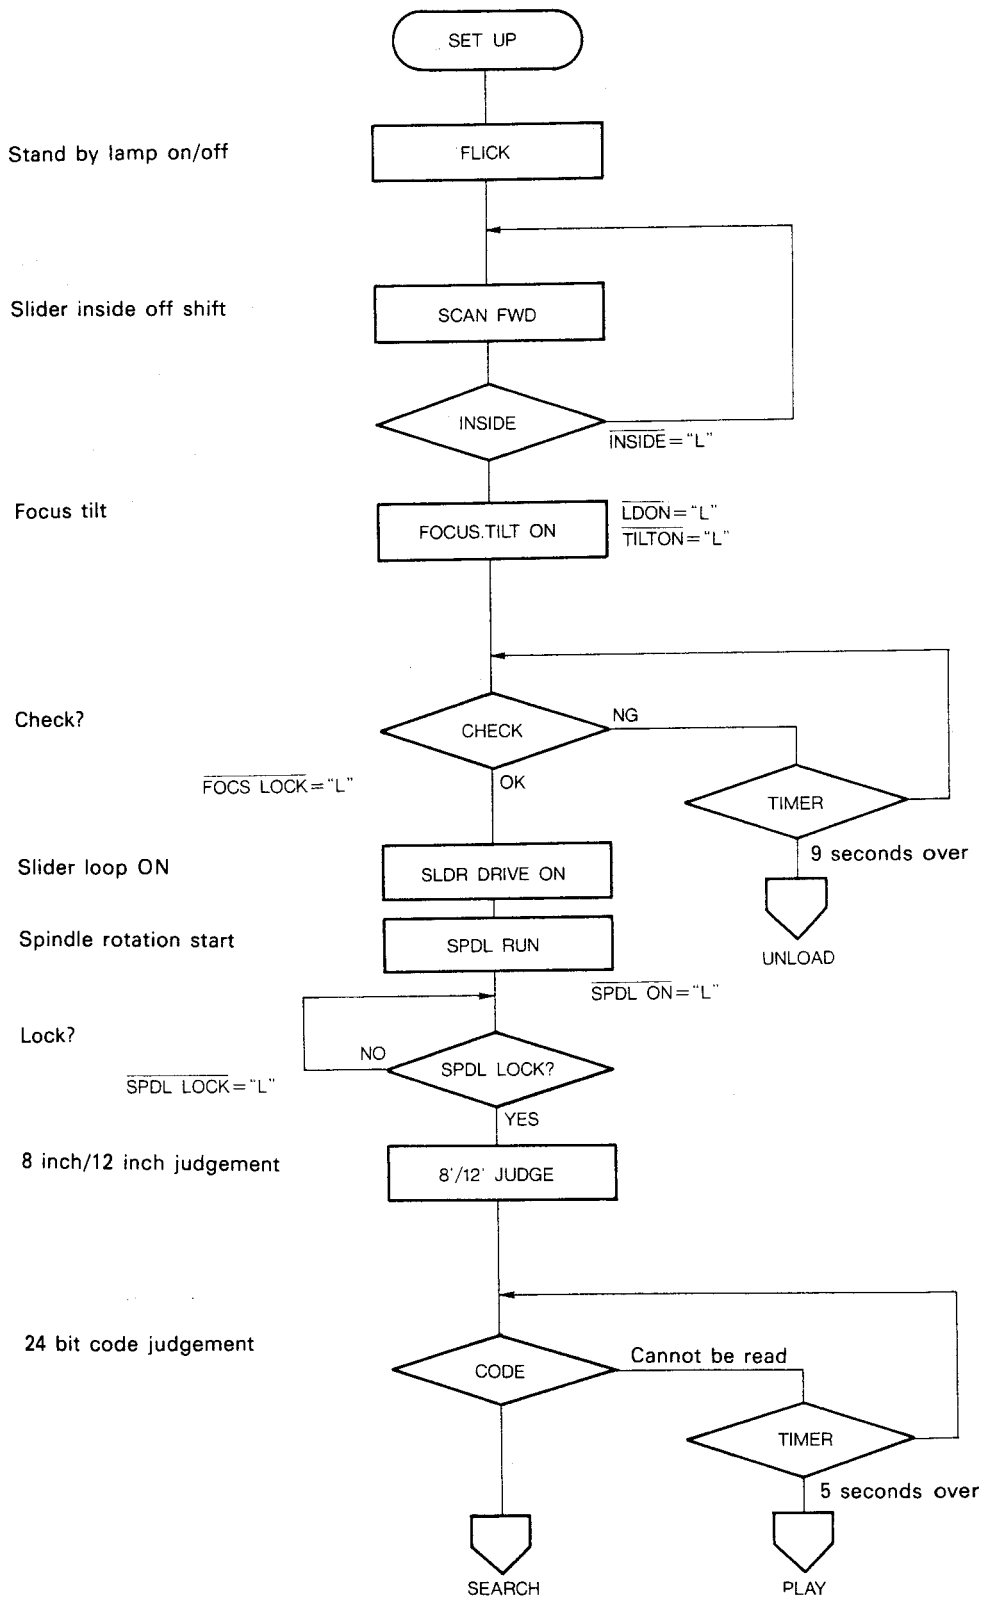

Fig. 5-1-2 Set up operation flowchart
- Set up operation \Rightarrow Fig. 5-1-2